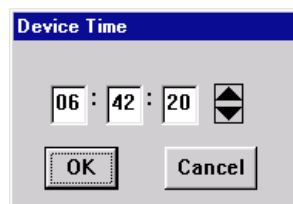

Figure 2-7. Edit Time Window
1. Click on **Device** on the Chassis View window menu bar to access the Device menu; drag down to **Edit Device Time...**, and release. The following change window, Figure 2-7, will appear.